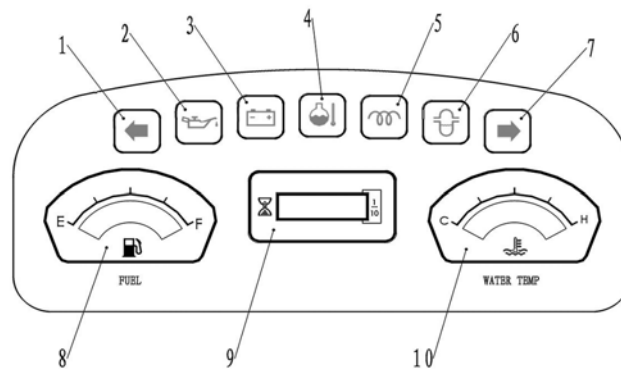

Fig. 2-45 Instrument Panel
4.5.1 Name and Usage of Instrument (Fig. 2-45)